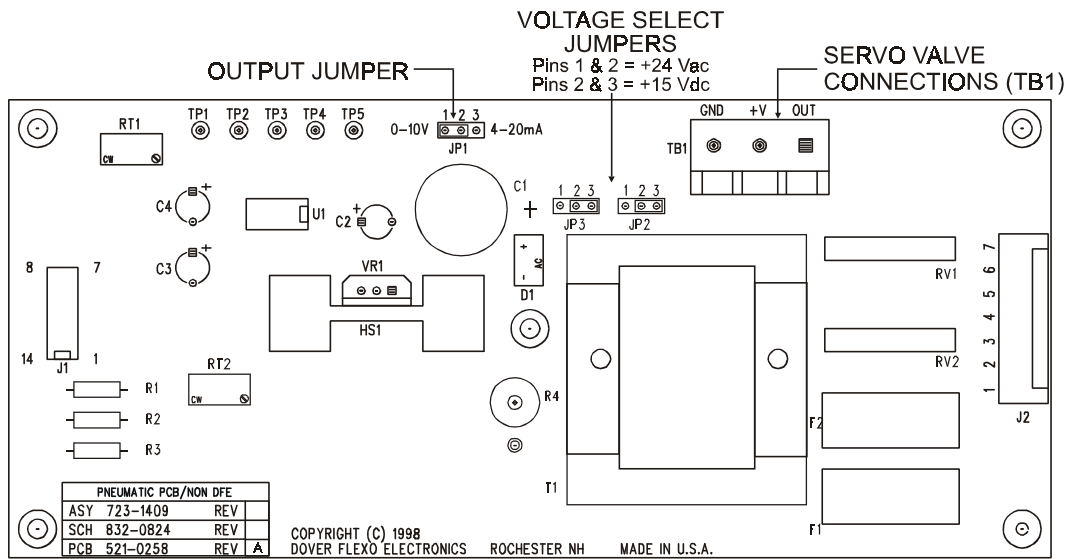

Figure 38 - PNEUMATIC DRIVER MODULE (C version only)
5. Turn on the AC power to the controller and check the power supplies. Refer to Figure 38, the Power Board. Verify the following voltages using the test points listed.